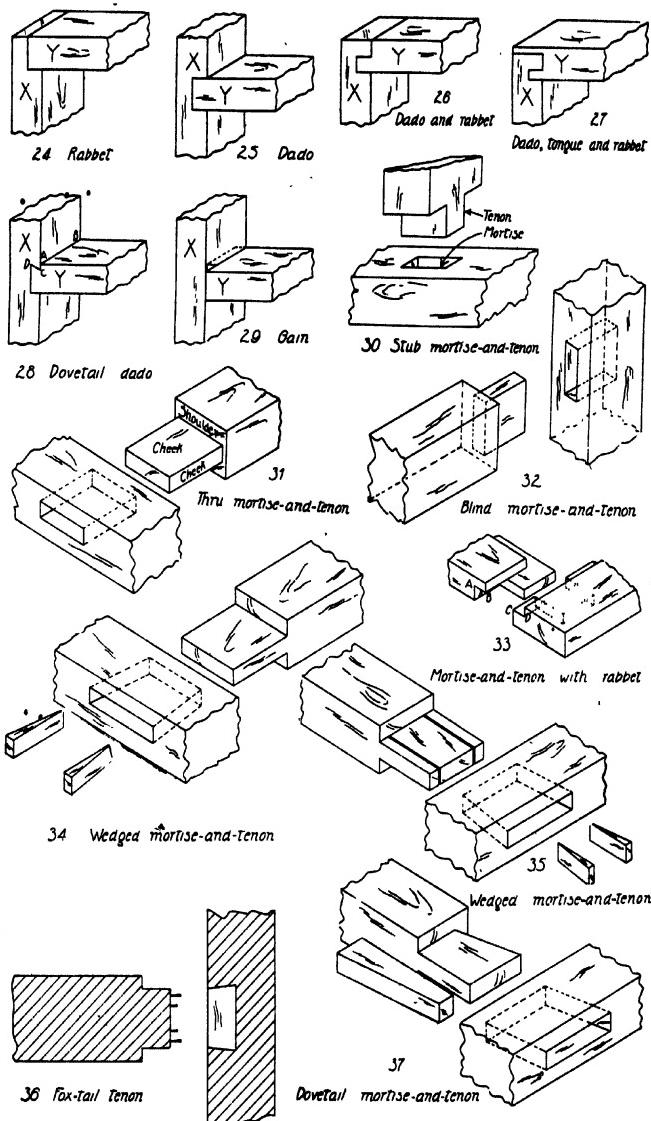
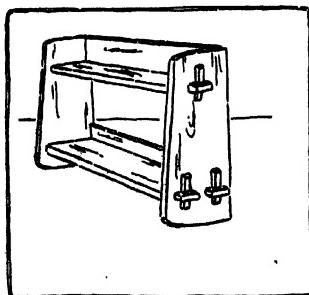

Fig. 266.
Fig. 277. Wall Book-Case.
*Wall book-shelves, Fig. 277, plate-racks, etc.,* are simply compound brackets. The shelf is the essential piece, the sides take the place of the supports, and the back is often reduced to strips merely wide enough to give rigidity.
The shelves may be either gained into the supports, Fig. 266, No. 28 or No. 29, p. 179, or a keyed mortise-and-tenon may be used, Fig. 277. In the latter case the back strip may have a short barefaced blind tenon which is mortised into
The rabbet or ledge joint, Fig. 266, No. 24, p. 179, is both strong and neat. It can be glued and also nailed if desired.
The rabbet and dado joint, Fig. 266, No. 26, can be glued without nails and is good for small boxes.
The housed dado, Fig. 266, No. 25, is good for water-tight boxes.